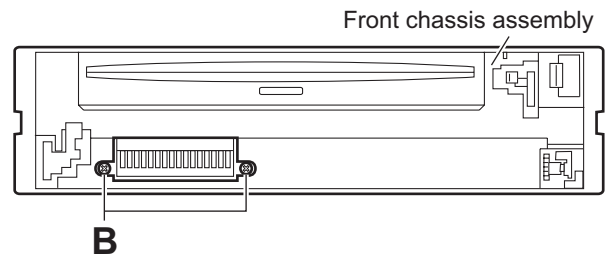

Fig.4
- (2) From the front side of the main body, remove the two screws **B** attaching the front chassis assembly. (See Fig.4.)